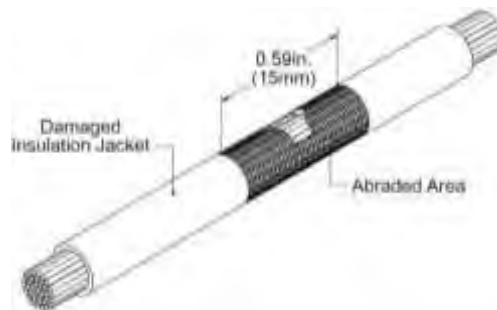
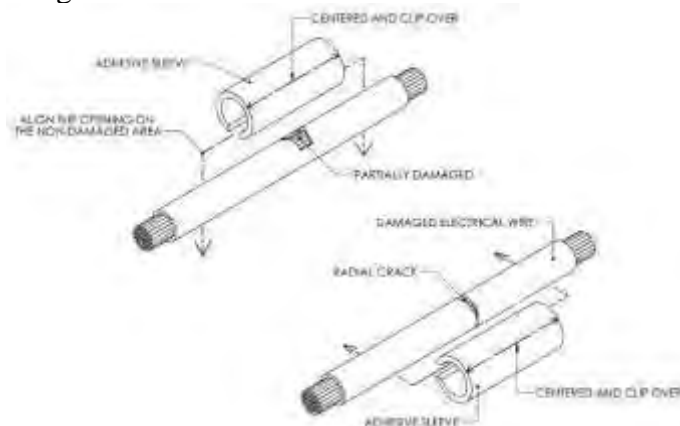

Figure 157
Figure 158
3. Abrade the wire jacket thoroughly in the damage area with 240 grit emery cloth or Scotch-Brite™ as shown in Figure 157. The length of the abraded area shall not be longer than 0.590 inches (15 mm) centered on damage insulation area. The whole surface of the damage area should be abraded. Remove loose particles from the abraded area using a dry lint free cloth or disposable wipe.
1. Clip the adhesive sleeve onto the wire covering the entire damage area as shown in Figure 157. The insulation damage area should be facing opposite to the opening of the C-Wrap. For radial crack damage on the wire insulation, C-Wrap must cover the whole diameter of the damage wire. Center the adhesive sleeve over the damaged area as shown in Figure 158.